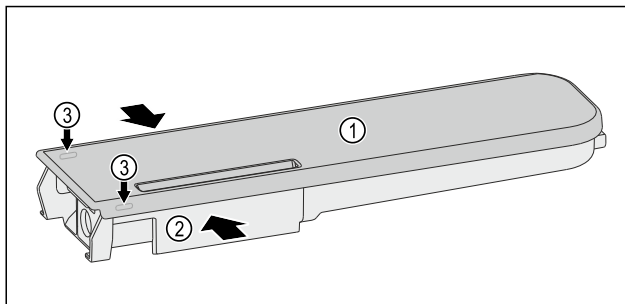

Fig. 166
- ▶ Push the water tanks *Fig. 166 (2)* together, leverage the cover *Fig. 166 (1)* carefully over the latching tabs *Fig. 166 (3)* and lift it up.
- ▶ Move the cover *Fig. 166 (1)* slightly forwards and back, and remove to the top.